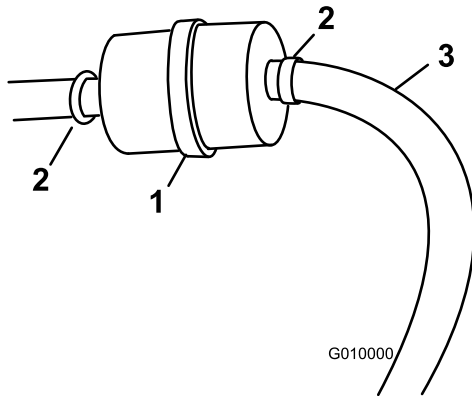

Figure 51
3. Loosen the hose clamps and slide them away from the filter (Figure 51).
3. Loosen the hose clamp at the fuel filter and slide it up the fuel line away from the fuel filter (Figure 51).
4. Disconnect the fuel line from the fuel filter (Figure 51).
Note: Allow gasoline to drain into a fuel container can or drain pan (Figure 51).
6. Slide the hose clamp close to the fuel filter to secure the fuel line (Figure 51).
5. Install a new filter to the hoses and secure the hose clamps (Figure 51).